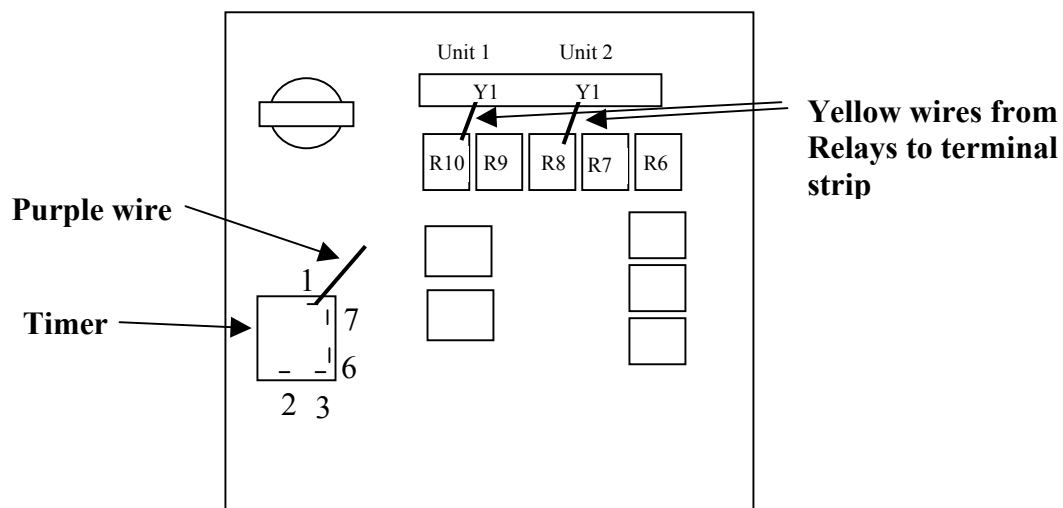

Figure 1: Timer relay
4. Locate the timer relay on the left side of the controller. It is a small black brick with spade-type terminals (see Figure 1 below). The terminals used are numbered 1,2,3,6 and 7.